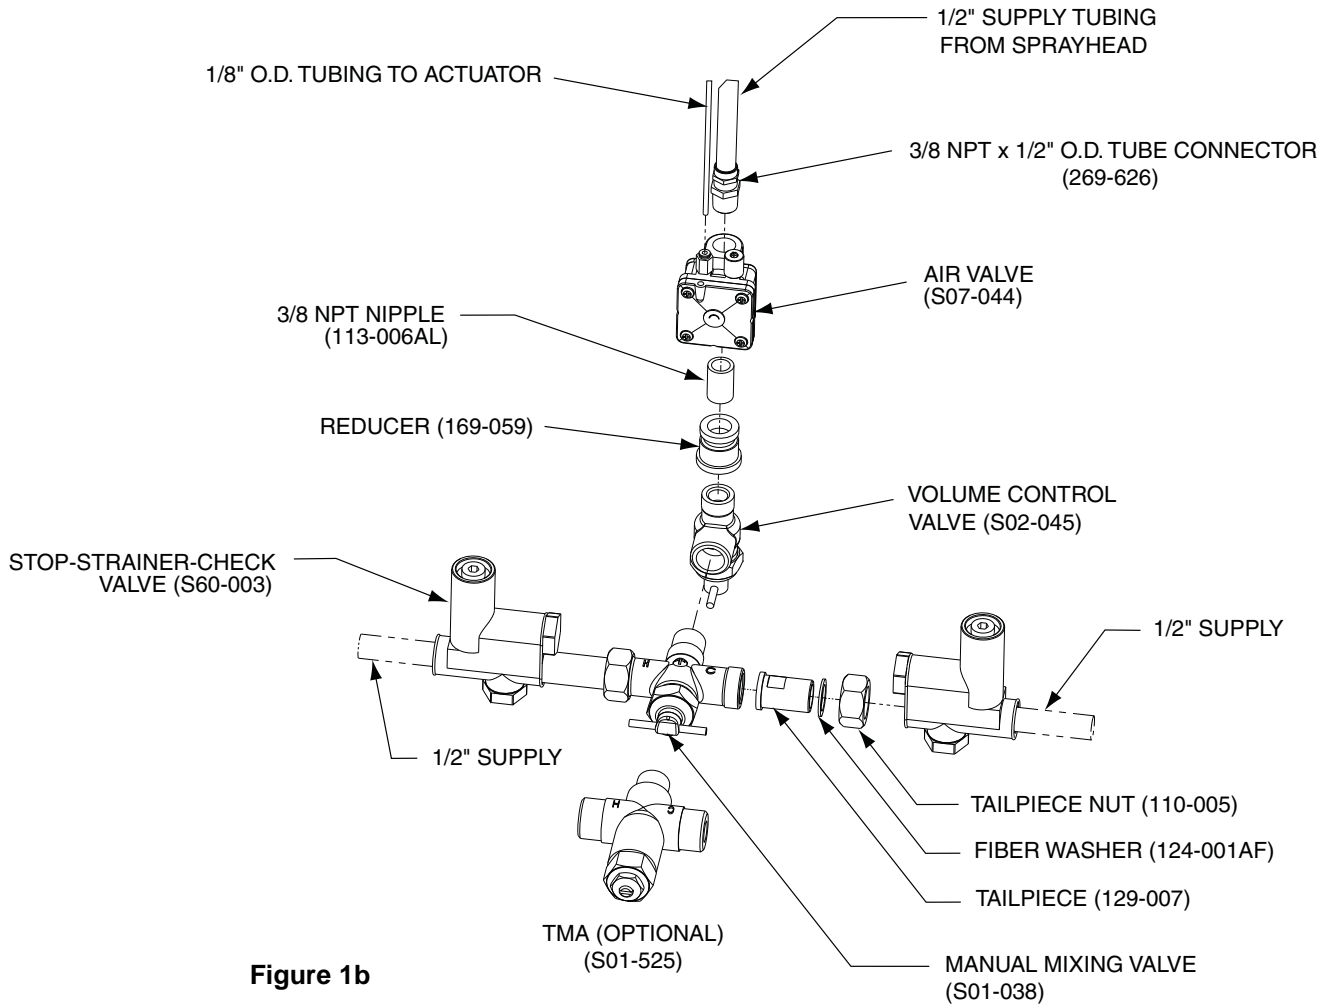

Figure 1b
- **FOR UNITS WITH ONE ACTUATOR:** connect the 1/8" tubing from the actuator to the tube connector on the air valve (Figures 1b and 4).